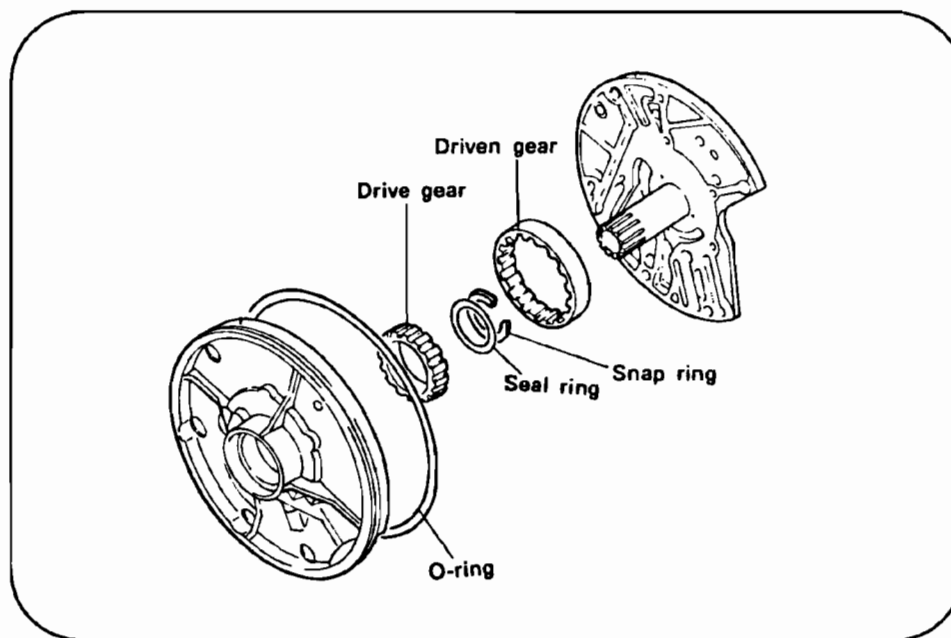

Figure 1
**Change:** Some KM 175 transaxle had a change made to the drive gear. The previous drive gear has a groove machined on the inside diameter to accommodate an O-ring which sealed against the converter neck. The drive gear now has an oil seal which is retained by a snap-ring. Figure 1 below shows the correct assembly procedure with the snap-ring facing the pump cover. The part number for the oil seal is: MD729928